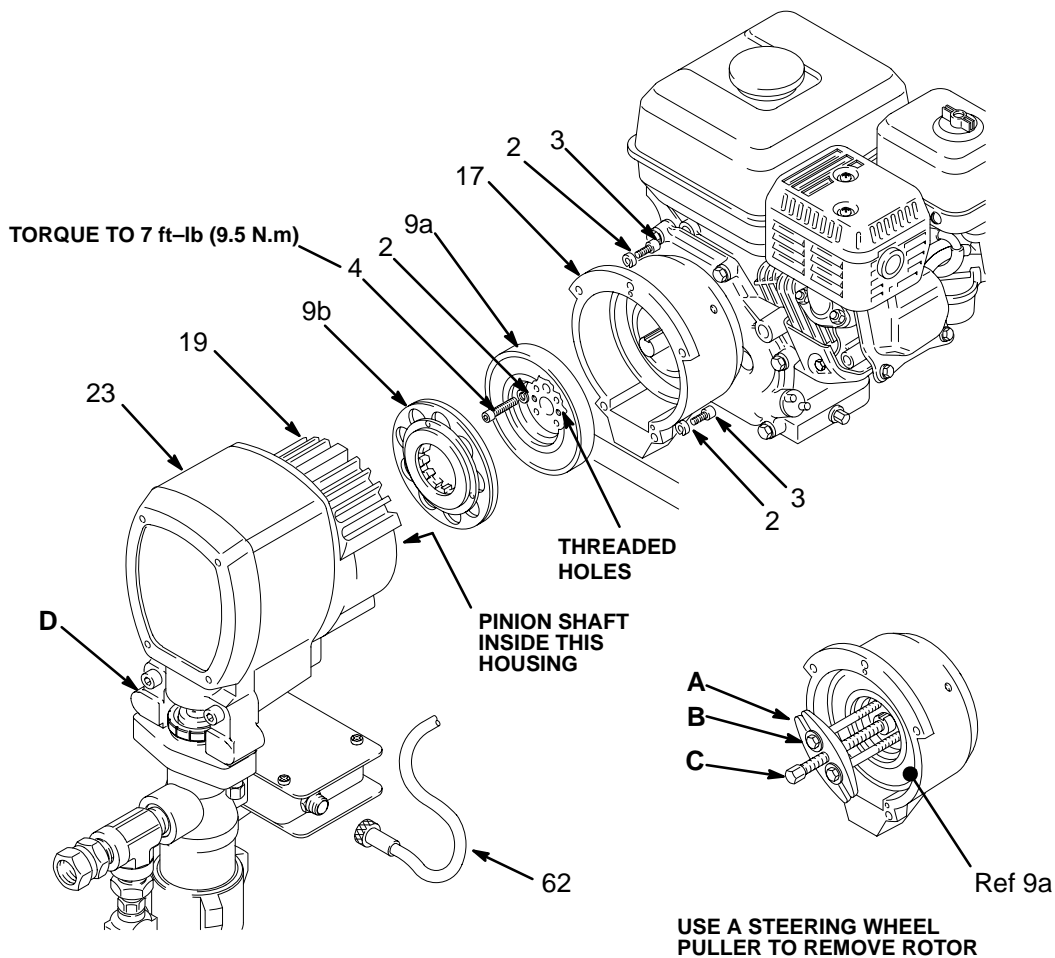

Fig. 23
2. Disconnect the hose from the displacement pump. Disconnect the cord set (62) from the pressure control.
3. Remove the bottom two screws (3) from the clutch housing (17) and then remove the remaining three screws (3).
4. Tap lightly on the back of the bearing housing (23) with a plastic mallet to loosen the assembly (D) from the clutch housing (17). Pull the assembly away; the armature (9b) will come with it.
- a. Remove the capscrews (4) and lockwashers (2). Install two of the screws in the threaded holes in the rotor (9a). Alternately tighten the screws until the rotor comes off. See Fig. 23.
- b. Use a standard steering wheel puller (A) with two 1/4-28 x 3 or 4 in. long screws (B). Replace the short screws of the steering wheel puller with the longer screws. Turn the screws (B) into the threaded holes of the rotor (9a). Tighten the cap-screw (C) of the tool until the rotor comes off. See Detail in Fig. 23.